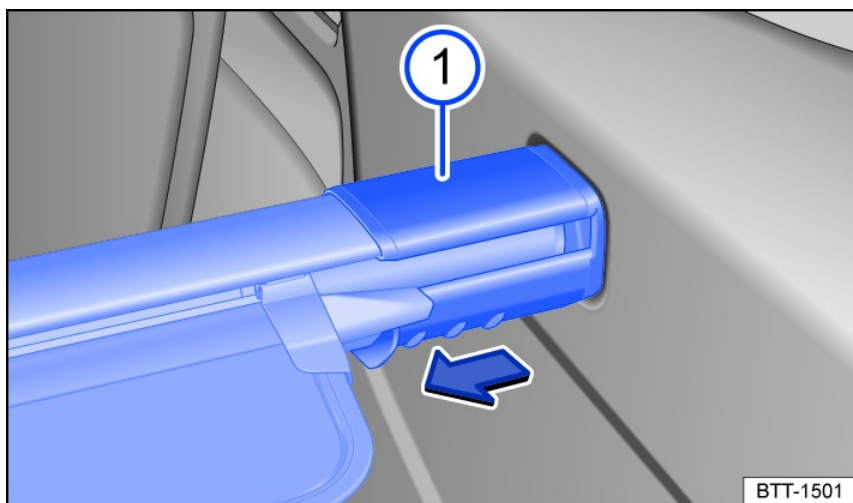

Fig. 160 In the luggage compartment: removing the luggage compartment cover.
2. Press the side panel on the luggage compartment cover *fig. 160* ① in the direction of the arrow and hold it in place.
3. Remove the luggage compartment cover upward and release the side panel *fig. 160* ①.
3. Guide the side panel *fig. 160* ① into the mount on the side trim panel.